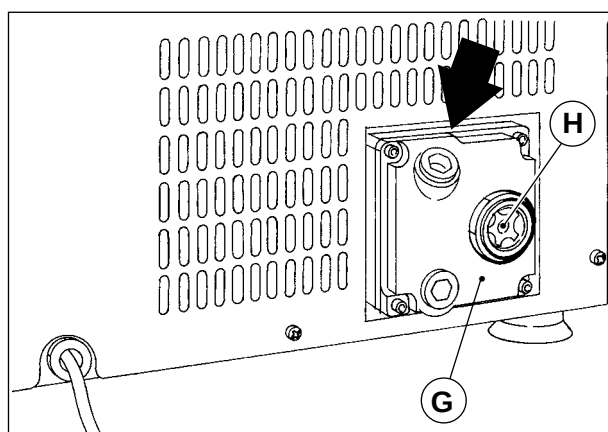

Fig. 2
- a stainless steel casing **(E)** with the control panel and main switch located on the front, and the back is closed by a stainless steel panel. The topping up is done from the back of the packaging machine **(Fig. 2)**. The connection for the gas cylinder (option) is provided on the back **(Fig. 1)**;